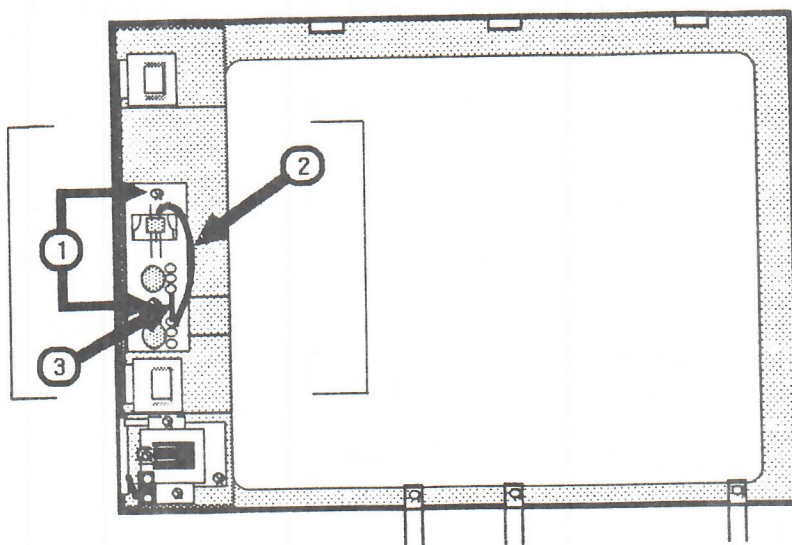

FIGURE 22
8. Remove the two screws (Figure 22, #1) that mount the metal plate to the front bezel and remove the plate.
9. If you are removing the brightness control from an AppleColor Monitor 100 Rev. 0, locate the wire (Figure 22, #2) that connects the brightness pot to the slide switch. Desolder and remove the wire from the brightness pot contact. If you are removing the contrast control, skip to step 11.
NOTE: The wire is not present on the AppleColor Monitor 100 Rev. A. Instead, there is a resistor connecting the brightness pot to the contrast pot (Figure 22, #3). If you are removing the brightness control, desolder the end of the resistor attached to the brightness pot. If you are removing the contrast control, desolder and remove the end of the resistor attached to the contrast pot.